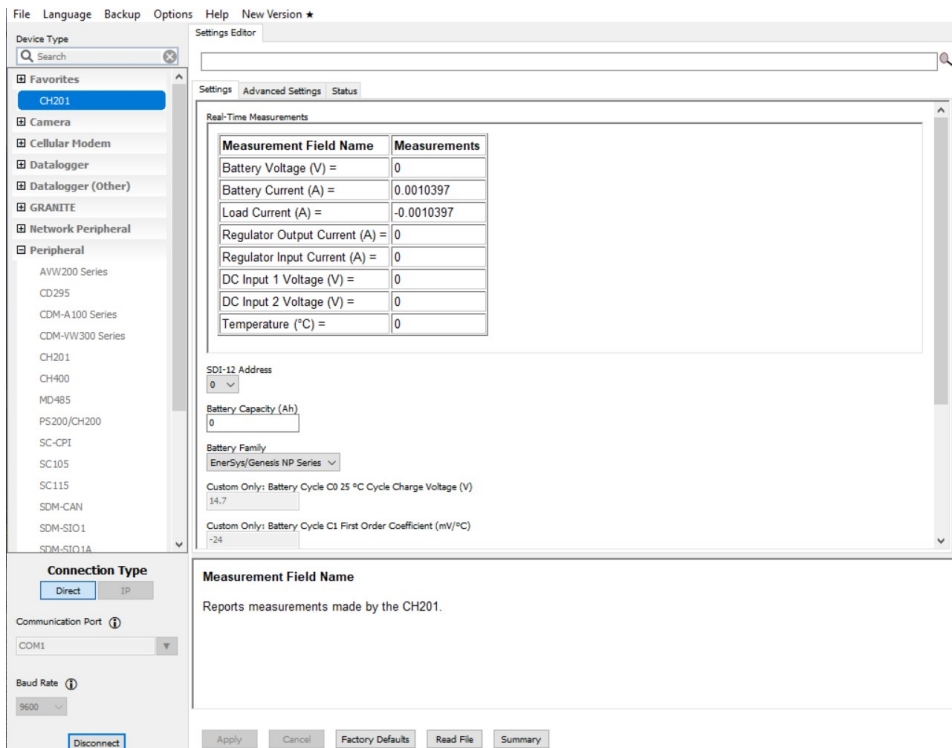

*FIGURE 6-3. Connecting the CH201 to a computer by using an A200*
2. Connect to the computer using an A200 device (see FIGURE 6-3 (p. 13)). Table 7-5 (p. 26) and the bottom of the CH201 *Device Configuration Utility* screen show wiring to an A200.